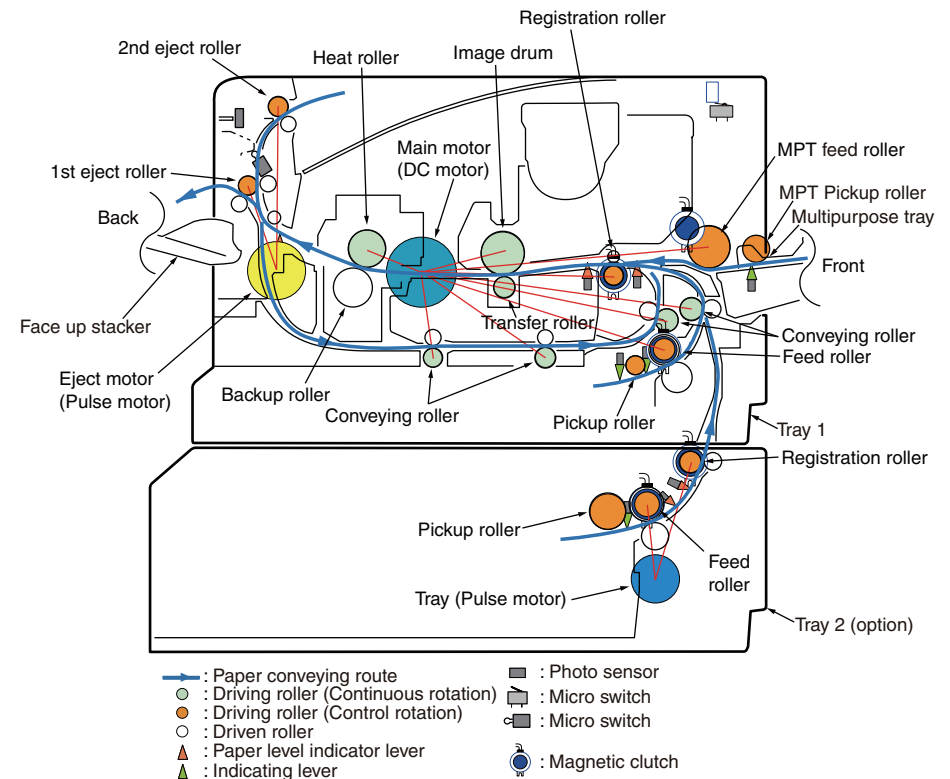

Figure 3-2 The sectional view of only printer
3. Pressing the [6] key starts the test. The unit name starts flashing and the corresponding unit is activated for 10 seconds. (Refer to Figure 3-2.)